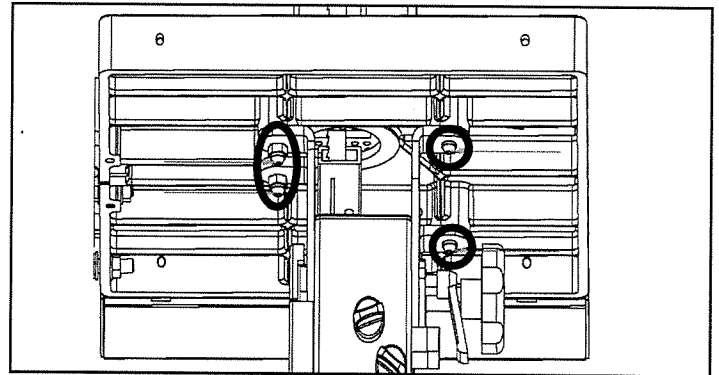

FIGURE 9
1. Loosen the four Hex Bolts (#16C) that hold the table to the trunnion. FIG. 9.
5. With the table secured in position, check that the table Angle Indicator (#90C) reads zero degrees on the scale on the lower trunnion. Loosen the screw holding the indicator and reset if necessary to the zero degree reading. FIG. 9.